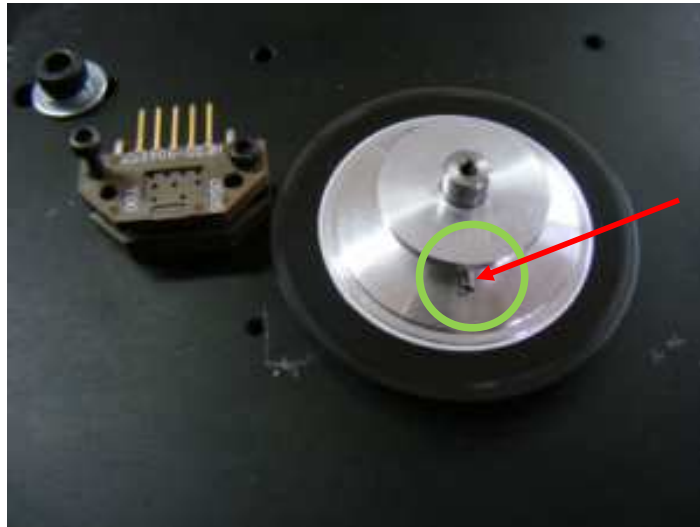

Figure 13.1-3
- Remove encoder wheel set screw with 0.9mm (0.035") flat screw driver. (Figures 13.1-3, 13.1-4, 13.1-5)